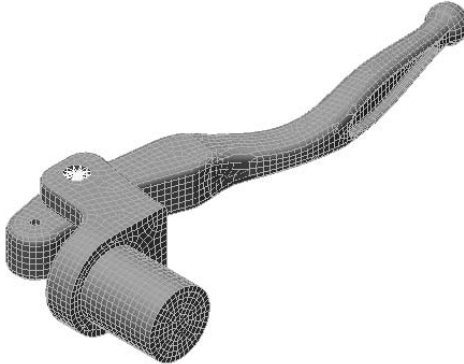

Figure 8-94 Changed orientation of the model
1. Change the current orientation of the model similar to the one shown in Figure 8-94 by using the **ViewCube**.